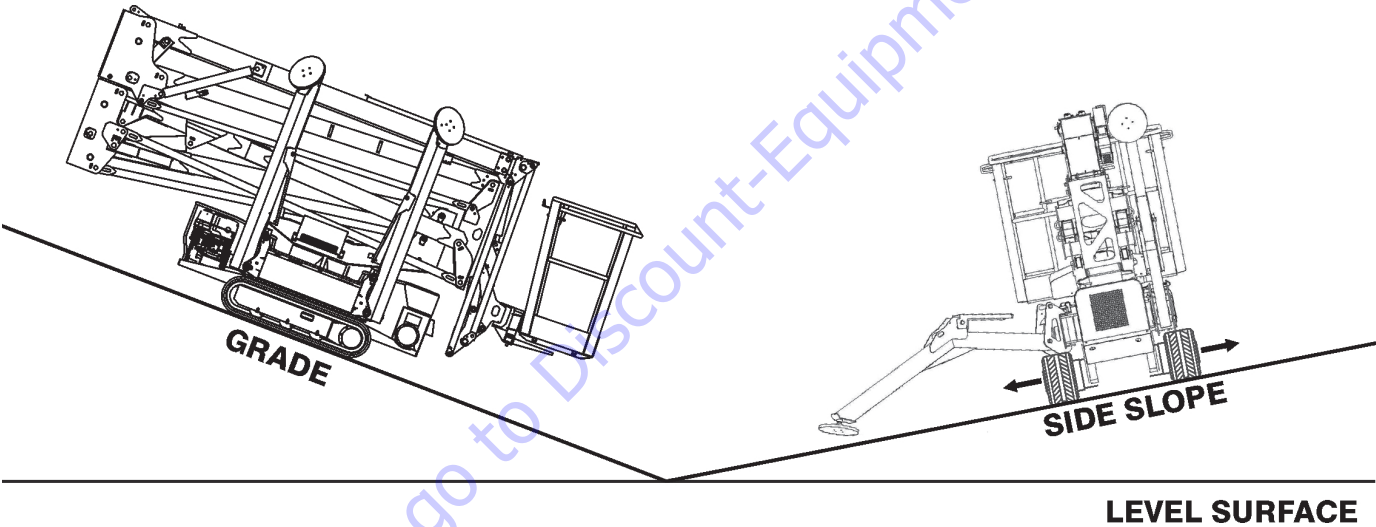

Figure 4-4. Grade and Side Slope Definition
**WHEN DRIVING ON SIDE-SLOPES, EXTEND THE LOW SIDE OUTRIGGERS UNTIL THEY ARE CLOSE TO THE GROUND TO HELP PREVENT A TIP-OVER IF A CHANGE IN SURFACE OCCURS. (SEE FIGURE 4-4.) DRIVE ON SIDE-SLOPES WITH THE BOOM STOWED. DO NOT DRIVE ON SIDESLOPES WHICH EXCEED 10 DEGREES.**